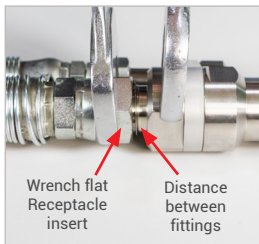

Figure 9
- ▶ Do not cover the area between the fittings (*Figure 9*). The pressure must be able to escape unimpeded here when the fittings are loosened. Ensure that you maintain a sufficient safety distance from your body, face and hands as you are loosening the fittings
- ▶ Loosen the fitting of the filling hose on port "B2" of the receptacle insert (Pos. 7) of the breakaway coupling. To do so, hold an open-ended wrench against wrench flat A/F(2) of the receptacle insert (*Figure 9*).
Attention: Do not cover the area between the filling hose and breakaway coupling (*Figure 9*).